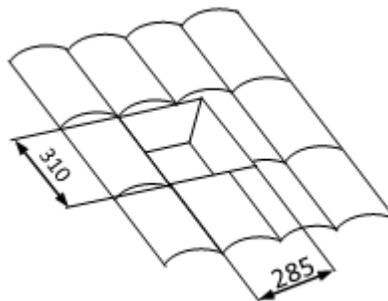

Fig 12
1. Make a 285x310 rectangular opening in the roof (Fig 12).